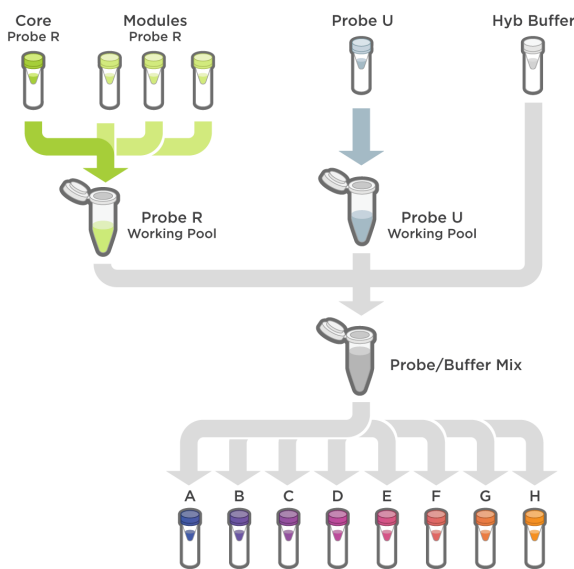

Figure 8: Probe/buffer workflow
Create the Probe/Buffer Mix following Figure 8 and Table 6.
2. Add **84 µL of Probe/Buffer Mix** containing Probe R, Probe U and Hybridization Buffer to each tube of **GeoMx Hyb Code** to be used (see Figure 8).